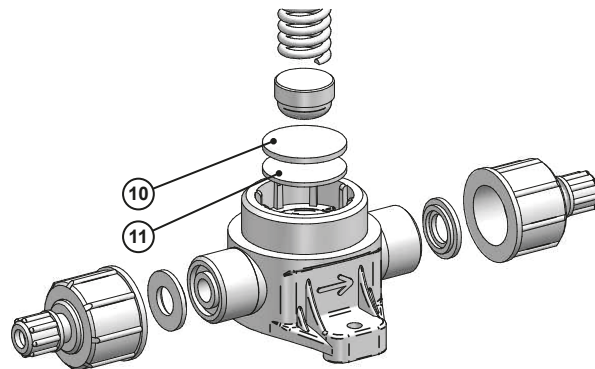

Fig. 12: Exploded view of back-pressure and pressure relief valves DN6 with diaphragms made of EPDM-PTFE
2. Unscrew the pressure setting screw from the valve cap (4).
3. Loosen the union nut (1).
5. Remove the diaphragm (8), spring plate (7), compression spring (6) and washer (5). Back-pressure and pressure relief valves with diaphragms made of FPM (Viton) and EPDM contain one diaphragm. Back-pressure and pressure relief valves DN6 with diaphragms made of EPDM-PTFE contain two diaphragms (10 and 11. Fig. 12).